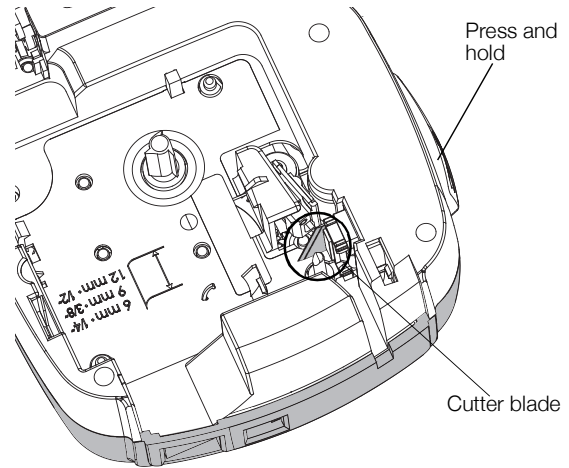

Figure 6
- 2 Press and hold the cutter button to expose the cutter blade. See Figure 6.